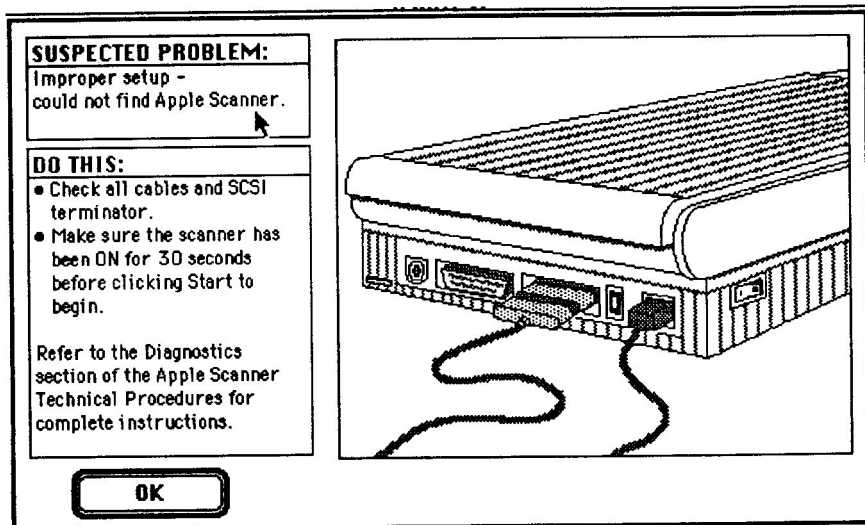

FIGURE 7
9. The diagnostic runs the tests you have selected. If any test fails, the test stops and gives you an information window (as in Figure 7).